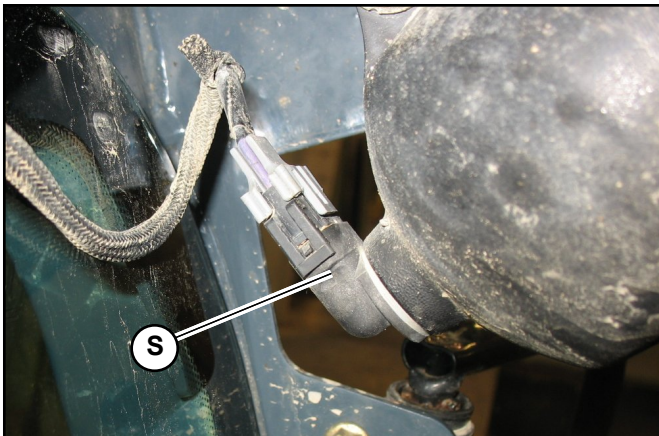

Fig. 236 – Work Light Bulb
1. Twist work light bulb (S, Fig. 236) counter-clockwise and pull it out of the work light.
2. Remove connector (T, Fig. 236) from bulb (S). Discard the spent bulb.